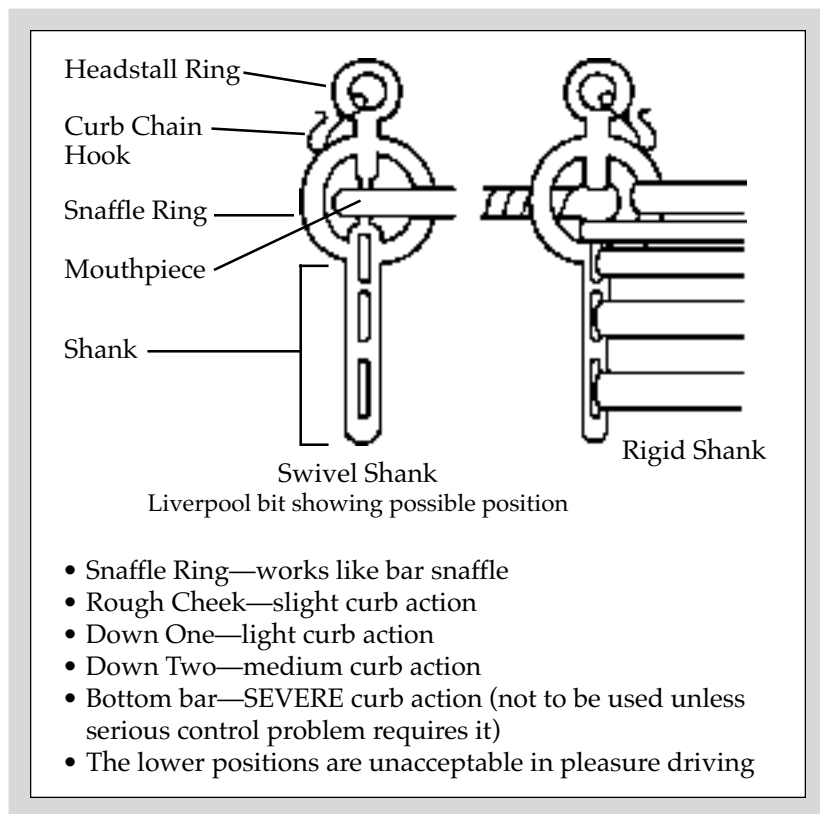

Figure 17. Liverpool Bit.
- **Liverpool Bit.** Most common curb bit (see Figure 17). Has either fixed or swivel cheeks and a variety of mouthpieces. The cheeks (shanks) have many openings for rein adjustment.